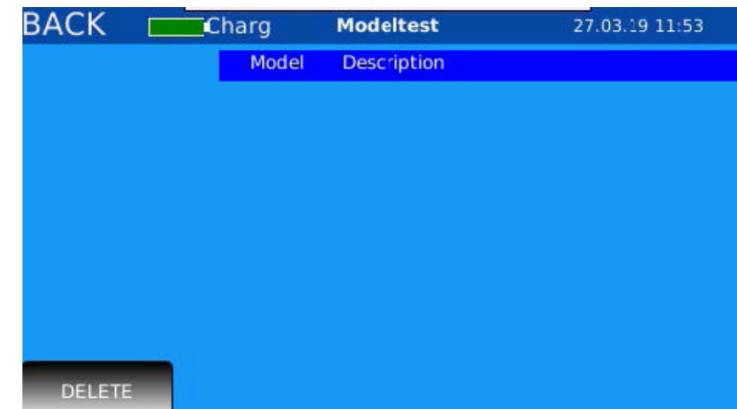

Figure 86. Imported sensor was deleted
3. The sensor will be deleted from the shaker database (Figure 86) and will no longer appear unless re-imported.